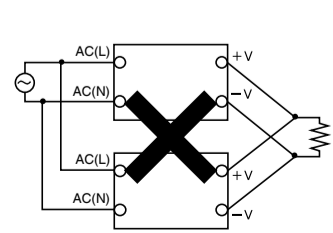

Fig. 6
- Parallel Operation** (Fig.6)